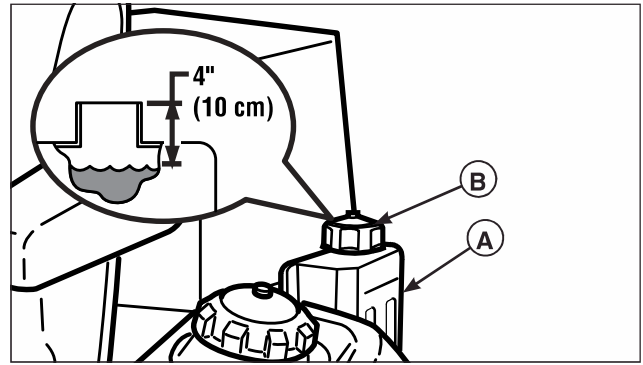

Figure 16. Checking Hydraulic Oil Level
2. Unscrew the reservoir cap (B, Figure 16).
3. Look down the filler neck of the hydraulic oil reservoir (A, Figure 16) and observe the oil level. When cold, the oil level should be approximately 4" (10 cm) below top of the filler neck.